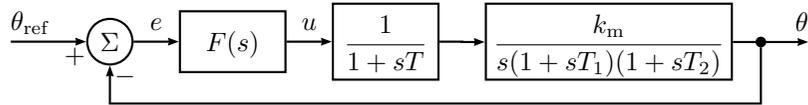

Figure 5.6a
5.6 A DC-servo is described by the block diagram in Figure 5.6a, where  $T_1 = 50$  ms is a mechanical time constant,  $k_m = 10$  is a proportional constant,  $T_2 = 25$  ms is an electrical time constant, and  $T = 10$  ms is an amplifier time constant. The system is tested with  $F(s) = 1$  and we find that the dynamic properties are satisfactory but that the system is somewhat too slow. Find an  $F(s)$  so that the closed loop system is twice as fast as for  $F(s) = 1$ , without increasing the overshoot.  $F(s)$  should also give a closed loop system which fulfills the following accuracy demands: